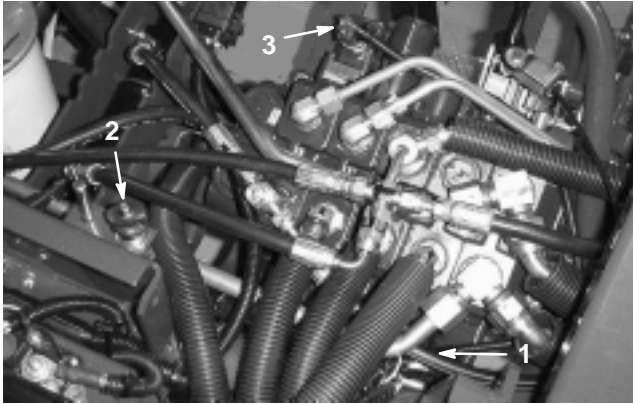

Figure 49
2. Remove the boot from the button end of the seat switch (Fig. 49) and retain it for installation on the replacement switch. Unplug the switch connectors.
2. Unplug the switch connectors from the traction switch installed in the valve bank bonnet on the selector valve section (Fig. 49).
2. Unplug the switch connectors from the end of the mow/lift switch installed in the valve bank bonnet (Fig. 49).